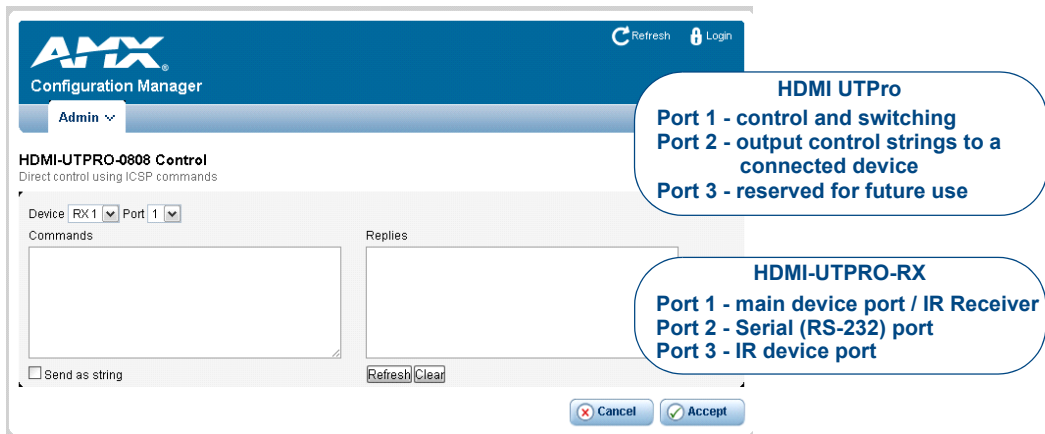

FIG. 45 Configuration Manager - HDMI-UTPRO-0808 Control page
Select **Control** from the Admin menu to access the *HDMI-UTPRO-0808 Control* page (FIG. 45). Use this page to send NetLinx programming control commands to the HDMI UTPro Matrix Switcher or the HDMI-UTPRO-RX Receivers (Receivers must be connected). This page provides a rudimentary control method if a master connection is not available.
2. From the Port drop down menu, select the applicable port for the command (FIG. 45).